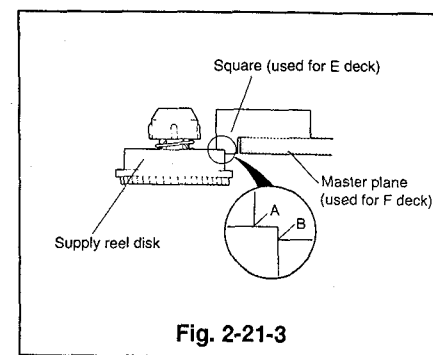

Fig. 2-21-3
- 3 Place the height adjusting jig [square](used for E deck: Part No.859C341070) on the jig, previously installed placed in Item ④, as shown in Fig. 2-21-3. Make sure that the height is correct (between A and B).